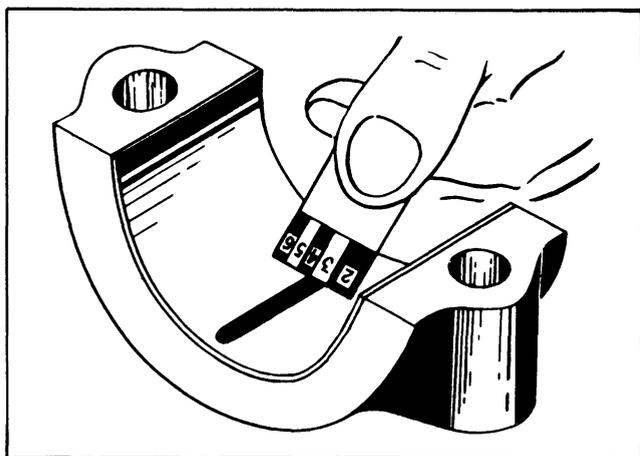

Fig. 8-32 Checking Bearing Clearance
8. Remove bearing cap and determine bearing clearances by comparing the width of the flattened "Plastigauge" at its widest point with the graduation on the Plastigauge" container. The number within the graduation on the envelope indicates the clearance in thousandths of an inch. (See Fig. 8-32) If this clearance is greater than .0045", replace the bearing.
5. Remove bearing cap and determine bearing clearance by comparing the width of the flattened "Plastigauge" at its widest point with the graduation on the "Plastigauge" container. The number within the graduation on the envelope indicates the clearance in thousandths of an inch. (See Fig. 8-32) If this clearance is greater than .005", replace the bearing.